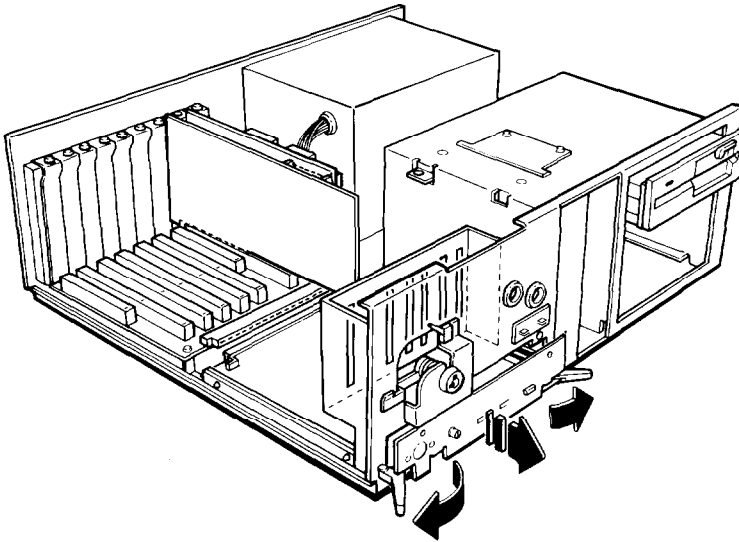

Figure A-7. Removing circuit board
4. Pull the white levers on the front of the circuit board apart to maneuver the board slightly away from the computer, about 1/2 inch. See Figure A-7. Be careful not to strain any connecting cables.